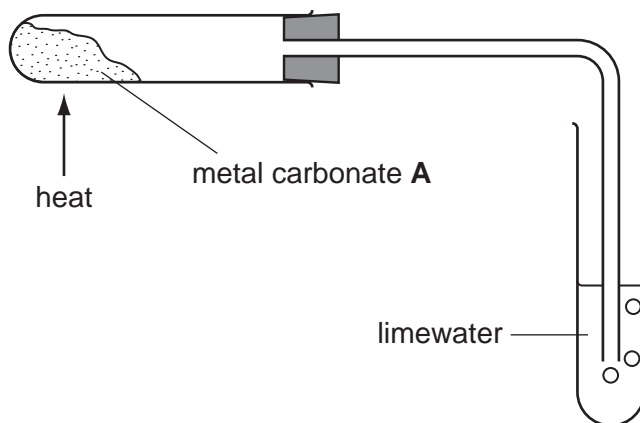

Fig. 2.1
- (a) (i) Place compound **A**, which is a metal carbonate, in a clean hard glass test-tube. Place about 3 cm3 of limewater in a second test-tube. Connect the bung of the delivery tube to the test-tube containing **A** and place the delivery tube into the limewater as shown in Fig. 2.1.